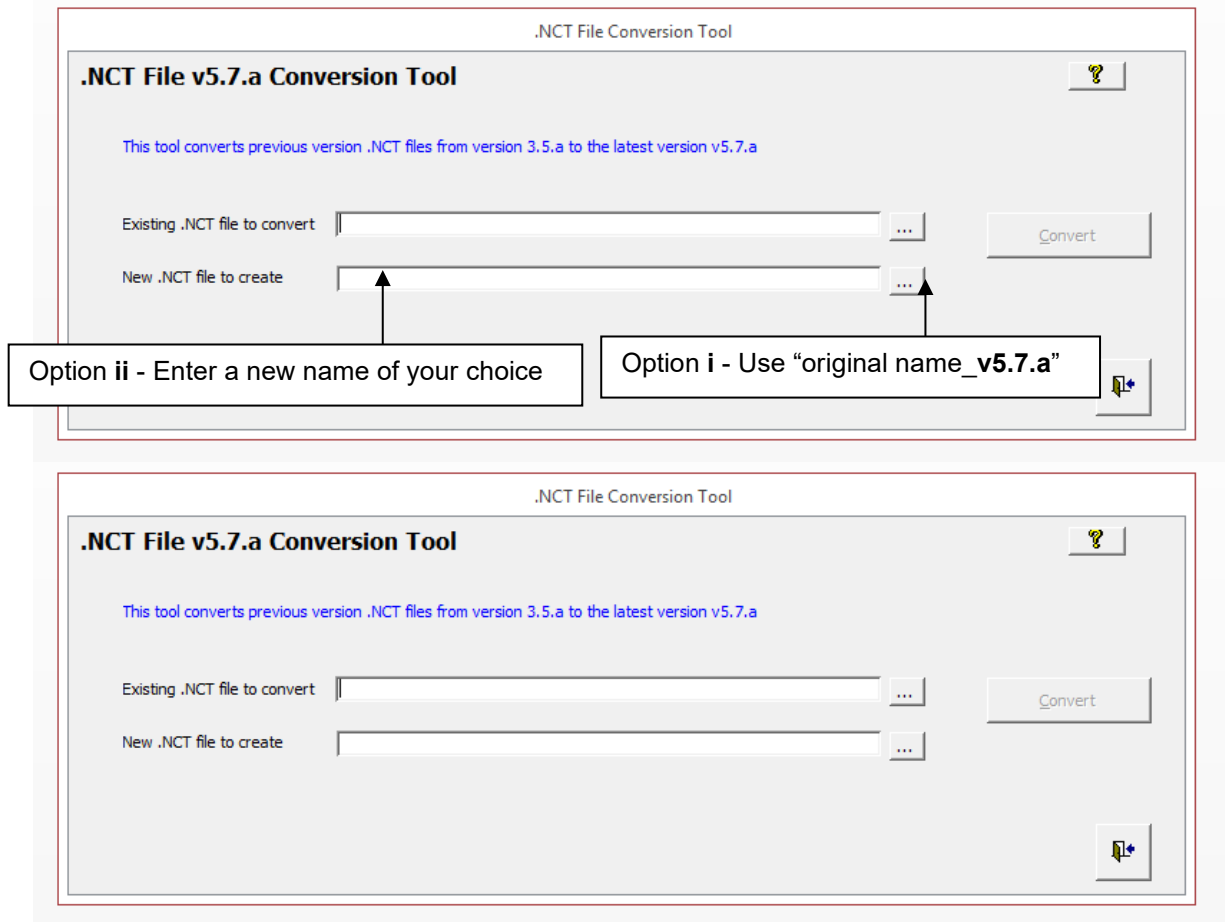

Figure 19: Naming the new file
- i. Click on the button shown in Figure 19. This opens a dialogue box (the same as in stage 2). Re-select the file you are converting and click on 'Save'. The new file will automatically be given the name: "original file name_v5.7.a.nct". The original file will not be over-written by the conversion tool, and you should keep it for future reference.
- ii. If you want to give the converted file a new name of your own, type a new name and its full path into the field (shown in Figure 19).